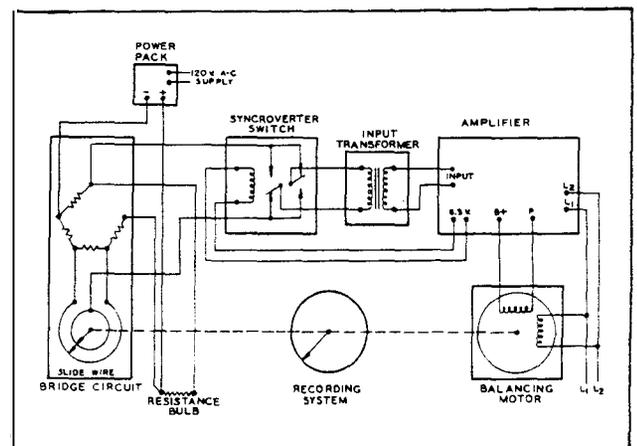

FIGURE 3. SIMPLIFIED SCHEMATIC WIRING DIAGRAM OF DYNAMASTER D-C BRIDGE
2. The Dynamaster D-C Bridge. (See Figure 3) The measuring element forms one leg of the d-c bridge. A d-c power pack supplies 7 to 9 volts d-c to the bridge circuit. When the resistance of the